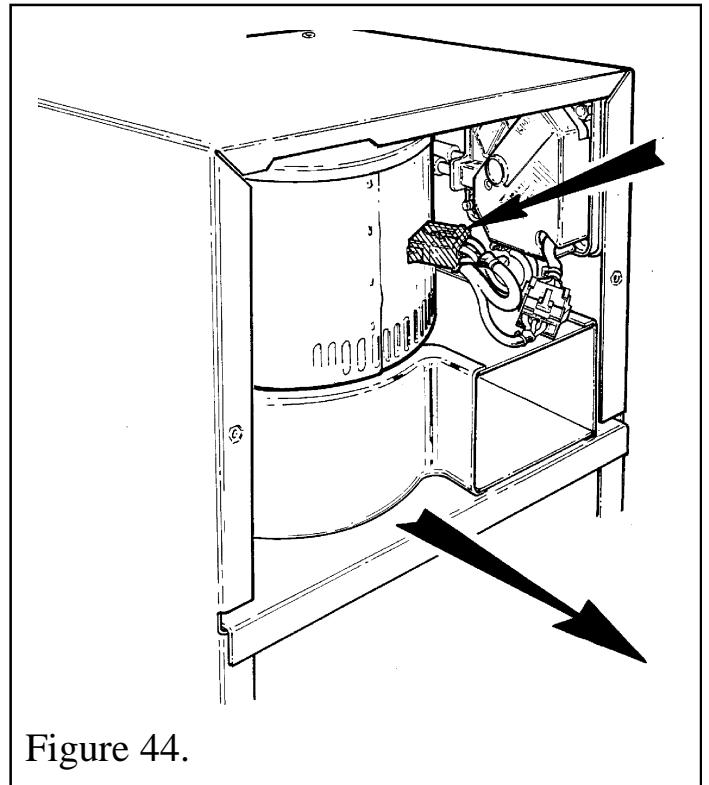

Figure 44.
- Withdraw the fan unit from the fan box taking care not to snag or damage the wiring loom (See figure 44).